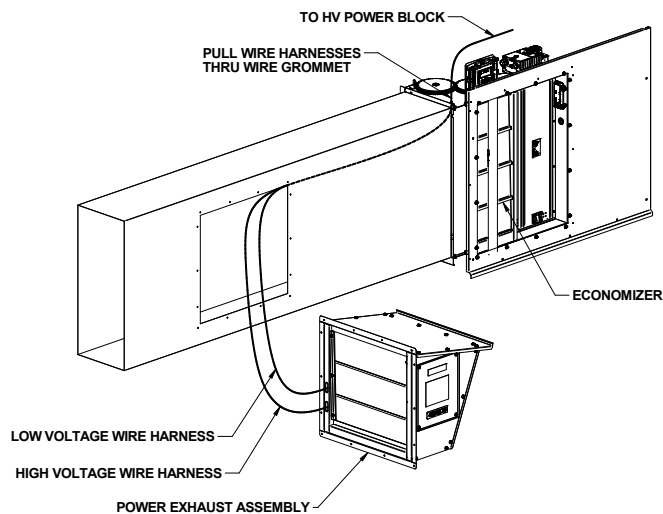

FIGURE 2 – 3-6 Ton Power Exhaust Wiring
1. Plug the supplied low voltage harness into the 4-pin connector located in the upper knockout on the power exhaust assembly. (Fig. 2 & 3)
3. Plug the supplied high voltage harness into the 4-pin connector located in the lower knockout on the power exhaust assembly. (Fig. 2 & 3)